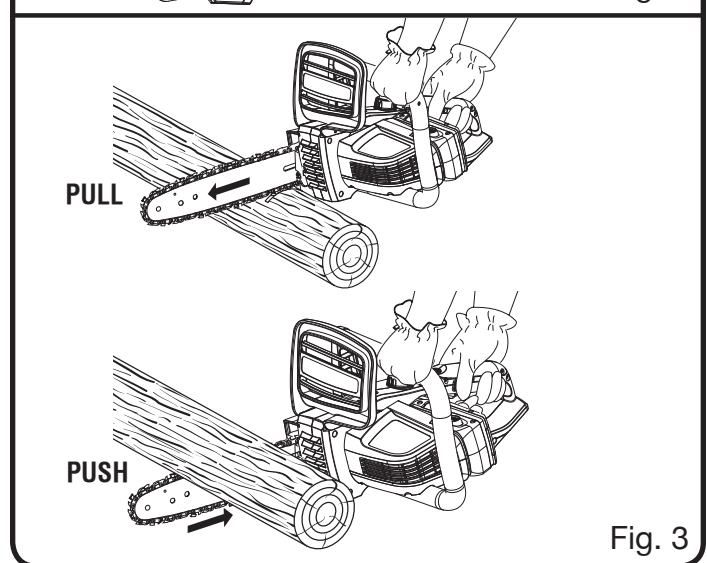

Fig. 3
- **Push and Pull** - This reaction force is always opposite to the direction the chain is moving where wood contact is made. Thus, the operator must be ready to control the PULL when cutting on the bottom edge of the bar, and PUSH when cutting along the top edge. *See Figure 3.*